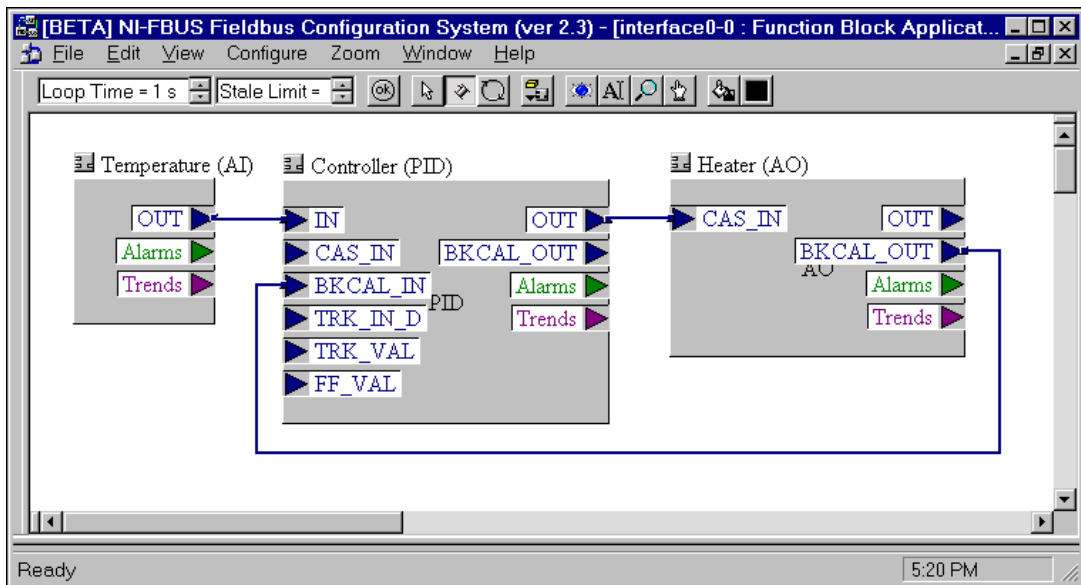

Figure 3-4. PID Block Connections Dialog Box
4. Connect the BKCAL_OUT parameter of the AO to the BKCAL_IN parameter of the PID. Figure 3-4 shows what your connections should look like.